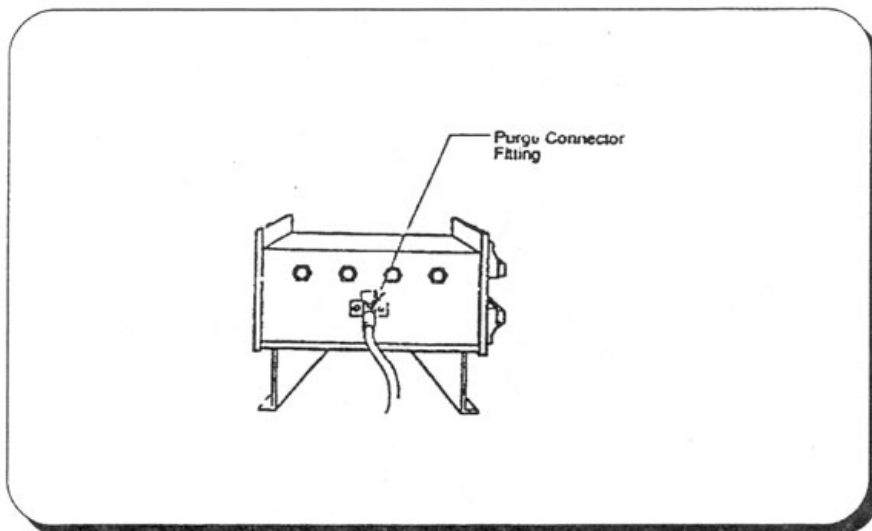

Figure 4-8. Rear Access To Quartz Isolation Tube
3. Remove the knurled gas connector fitting (see **Figure 4-8**).